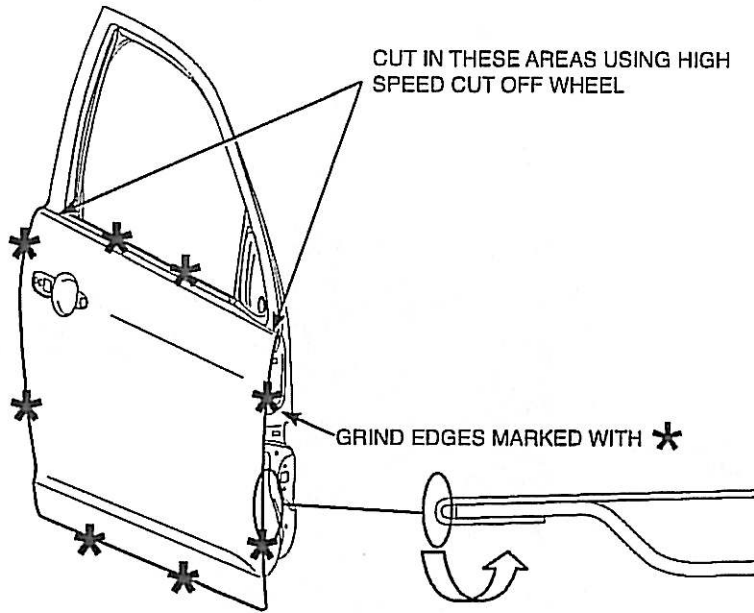

FIGURE 1
4. Using a high speed cut off wheel, make the cuts to the beltline area of the door skin following Figure 1.
5. Using a grinder, grind the perimeter of the door hem to separate the hem edges, following Figure 1.